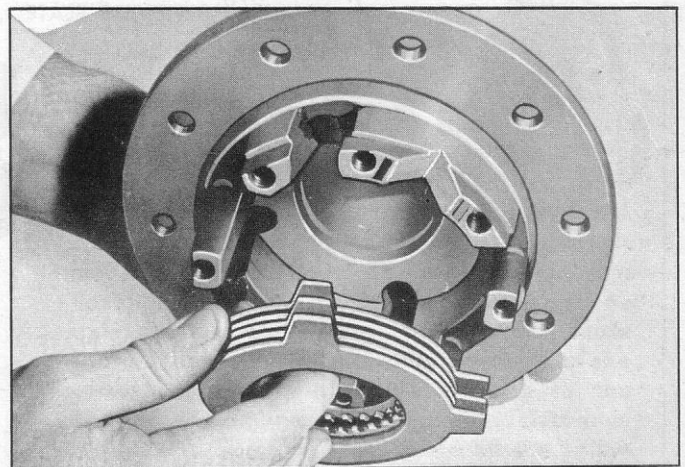

Fig. 37—Installing Clutch Plates
1. Hold ring gear half of case on its side, Fig. 37. Install side gear retainer and clutch plates as follows.